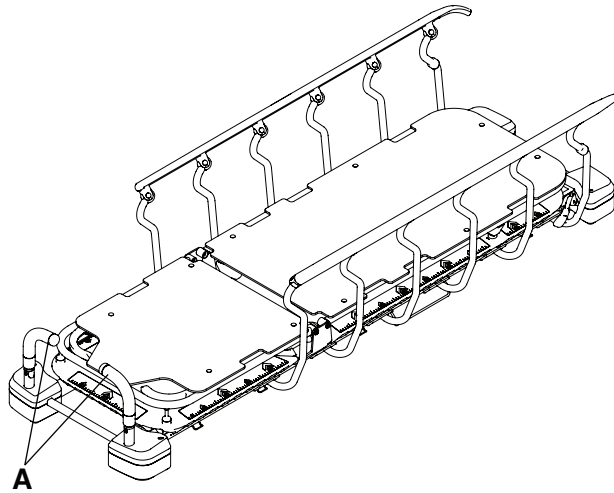

Figure 7 – Positioning the head end push handles
2. Pivot the head end push handles (A) to the use position (Figure 7).